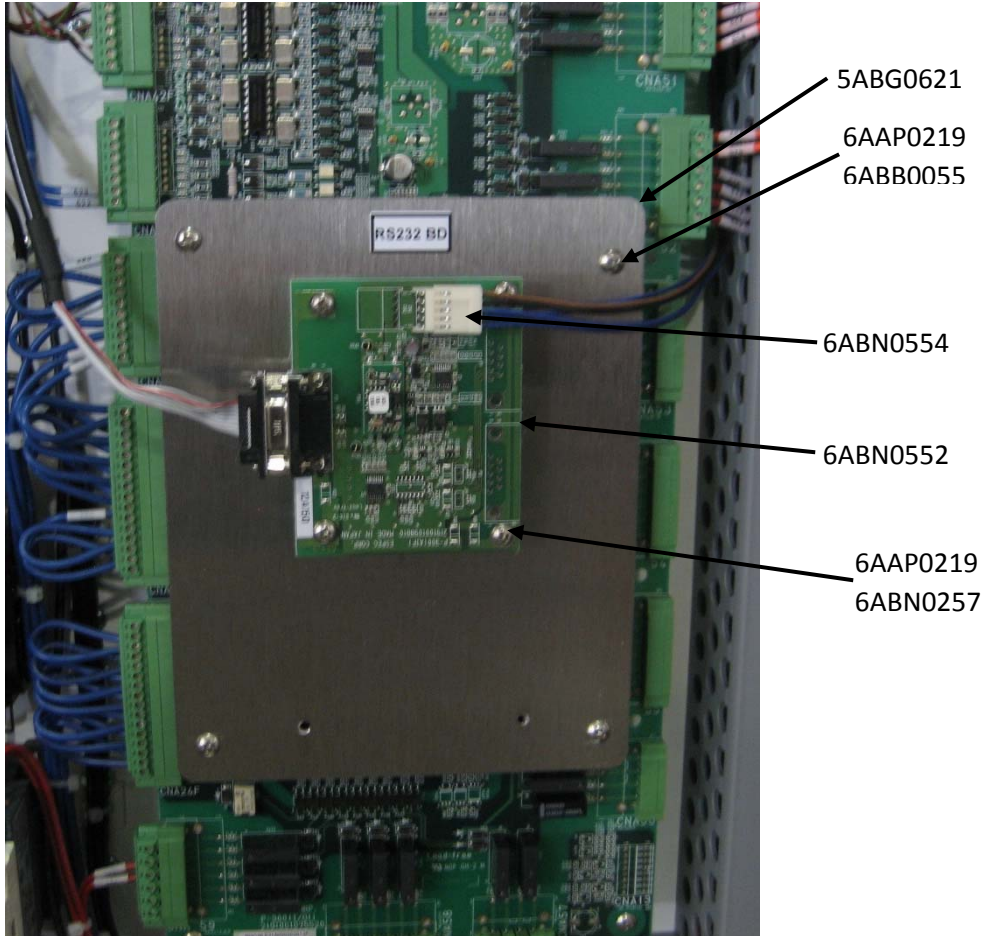
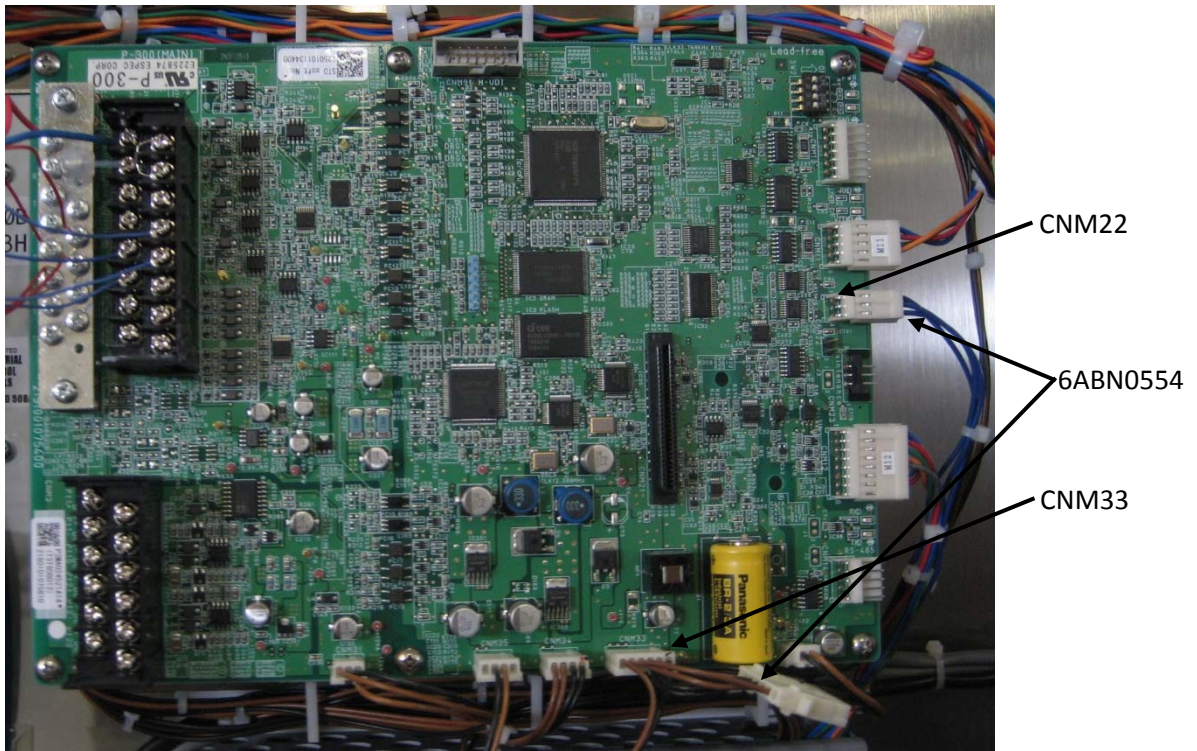

Figure 1: Interface Board Mounting.
Figure 2: CPU Board Connections
2. Open the electrical box and install mounting plate 5ABG0621 over IO boards using standoffs 6ABB0055 and screws 6AAP0219 as shown in Figure 1.
3. Mount RS232 board 6ABN0552 to mounting plate using 6ABN0257 circuit board supports and 6AAP0219 screws as shown in Figure 1.
4. Connect RS232 power and communications cable 6ABN0554 between RS232 board (see Figure 1) and the P300 CPU board connectors CNM33 and CNM22 (see Figure 2). CNM33 will already have a cable connected to it remove this connect it to the socket on 6ABN0554 and plug 6ABN0554 into to CNM33.